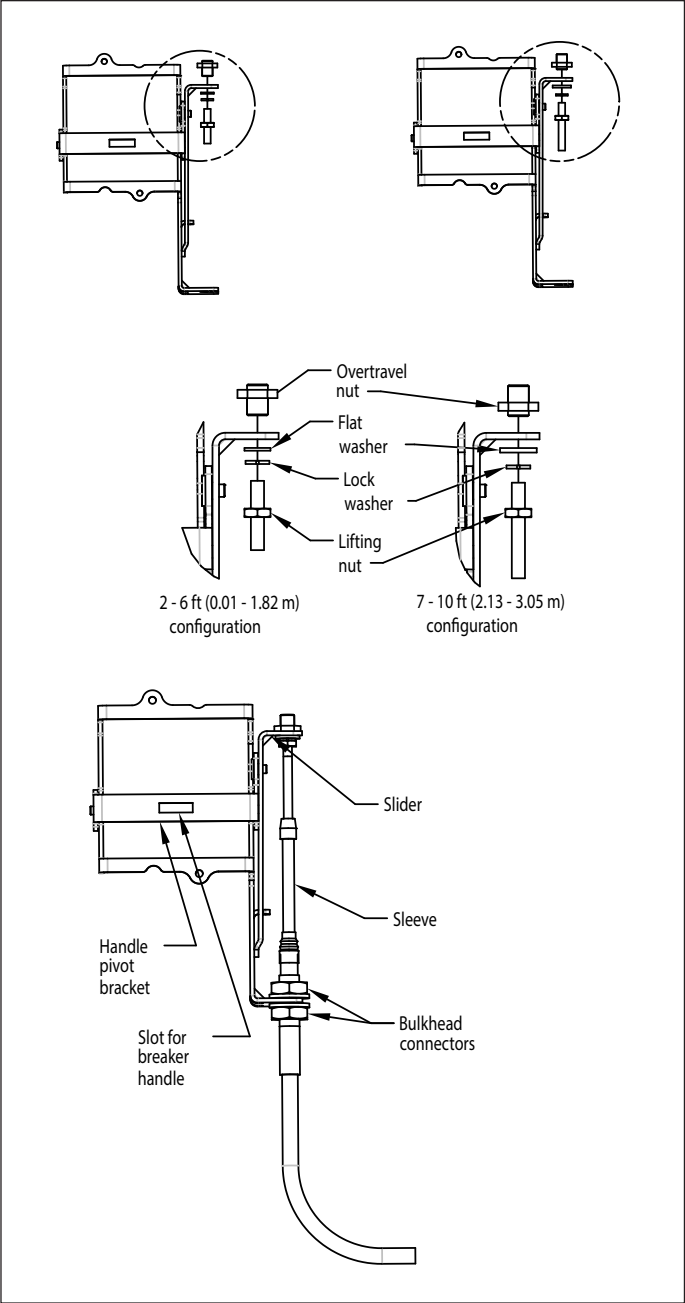

Figure 5. PDG1 actuator mechanism.
The high performance Flex Shaft handle mechanism provides a means of externally operating the circuit breaker and can be applied to enclosures of varying heights and depths. The handle can be used with NEMA 1, 3R, 12, and 4/4X enclosure applications, depending on the accessory components selected. An operating handle, flexible shaft, and mechanism are required for standard application. Nine lengths of shafts are available for use with the wide range of depths of various enclosures (2 through 10 ft [0.61 through 3.05 m]). When selecting the length of the flexible shaft, ensure minimum bending radius of 4 in. (101.60 mm) is maintained to operate properly. The standard method of shipment includes the mechanism preset at the factory. If minor field adjustments are required, see Figure 5. For this publication, the term circuit breaker shall also include the molded case switch and motor circuit protector (HMCP).
In the event a customer must disassemble the pre-assembled Flex Shaft handle mechanism, the procedure listed below must be followed before continuing with the "Installation" instructions (see Figure 5).
8. Check the operation of mechanism for "ON", "OFF", and "Reset". Check the reset position of the actuator mechanism, that the lifting nut and sleeve of shaft do not come in contact with each other (see Figure 5). If they do, move the bulkhead connectors accordingly. If the mechanism functions incorrectly, repeat the procedure or go to adjustment checklist.
Loosen the lifting washer/nut while tightening the washer/lock washer/nut. Two or three turns should be sufficient (see Figure 5).
Note: Check the reset position of the actuator mechanism, that the lifting nut and sleeve of shaft do not come into contact with each other (see Figure 5). If they do, move the bulkhead connectors accordingly.
Loosen the washer/lock washer/nut on the end of the shaft while tightening the lifting washer/nut until the breaker turns on with positive action. Tighten both nuts and recheck for "ON", "OFF", and "Reset" positions (see Figure 5).
Note: After adjustment, be certain to have a minimum of one thread past the washer/lock washer/nut assembly (see Figure 5).